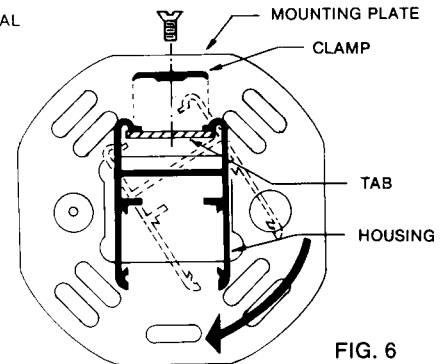

FIG. 6
5. Slip CANOPY COVERS onto HOUSING(S) and twist HOUSING(S) onto TABS on MOUNTING PLATES, see Fig. 6. Lock in place with CLAMPS.